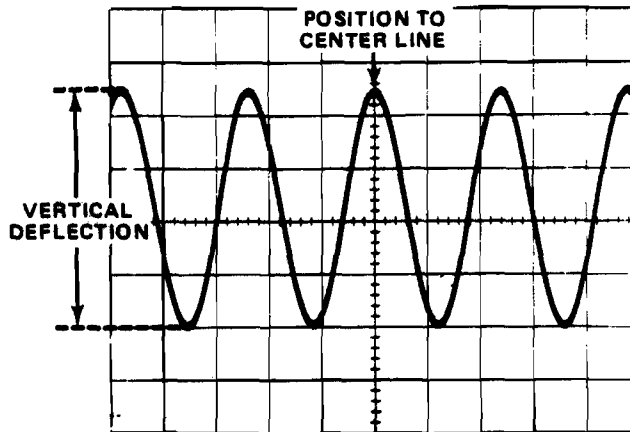

Fig. 1-4. Measuring the peak-to-peak voltage of a waveform.
6. Turn the 7A24 POSITION control so the lower portion of the waveform coincides with one of the graticule lines below the center horizontal line, and the top of the waveform is within the viewing area. With the time-base Position control, move the display so one of the upper peaks lies near the center vertical line (see Fig. 1-4).
**EXAMPLE:** Assume that the peak-to-peak vertical deflection is 4.5 divisions (see Fig. 1-4) using a 10X attenuator probe, and the VOLTS/DIV switch is set to 1 V.